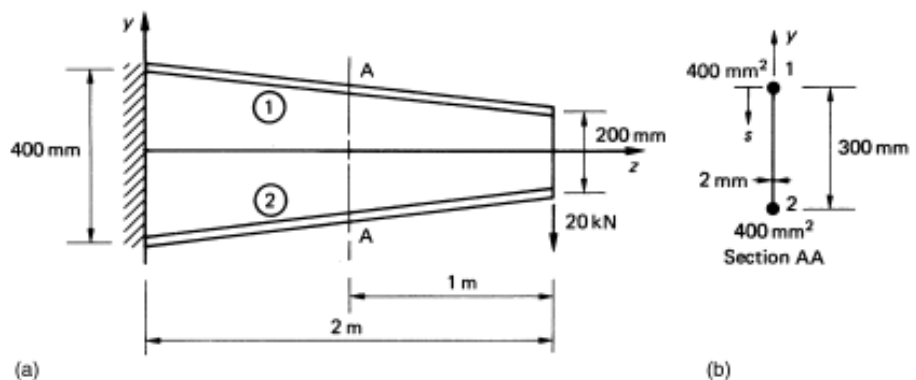

Fig.6
- 6 a) Determine the shear flow distribution in the web of the tapered beam shown in Fig.6 at a section midway along its length. The web of the beam has a thickness of 2 mm and is fully effective in resisting direct stress. The beam tapers symmetrically about its horizontal centroidal axis and the cross-sectional area of each flange is 400 mm^2 . The internal bending moment and shear load at the section AA produced by the externally applied load are, respectively, $M_x = 20 \times 1 = 20 \text{ kNm}$; $S_y = 20 \text{ kN}$ 10